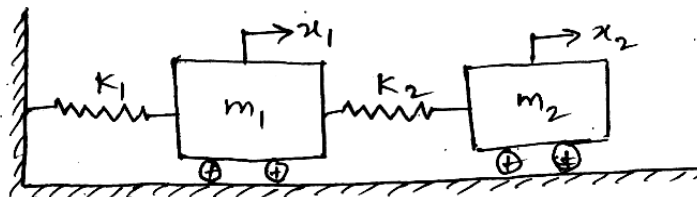

Fig Q4.
4. For the undamped two degree of freedom system shown in Fig. Q4 with the generalized coordinates x_1, x_2 determine; (i) the principle co-ordinates (ii) the ensuing vibrations of the system for the initial conditions. Take; $m_1 = m_2 = m$ and $k_1 = k_2 = k$.